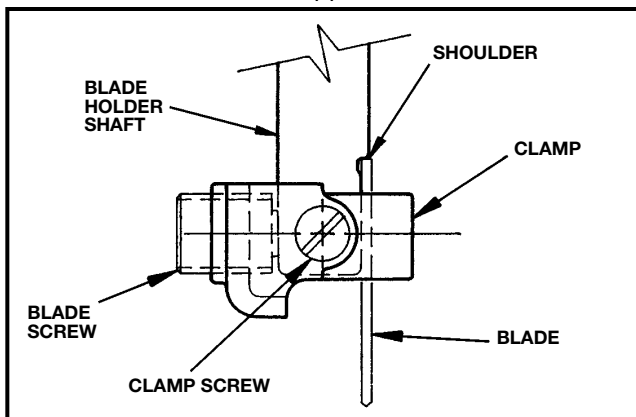

Fig. 4
2. Insert screwdriver behind blade holder shaft, (see Fig. 4), and move shaft forward to allow assembly of clamp. Position clamp on blade holder shaft as shown in Fig. 4, and tighten clamp screw; then loosen clamp screw $\frac{1}{4}$ turn.
3. Install “universal” blade (with teeth facing forward) until top of blade contacts shoulder, Fig. 4.